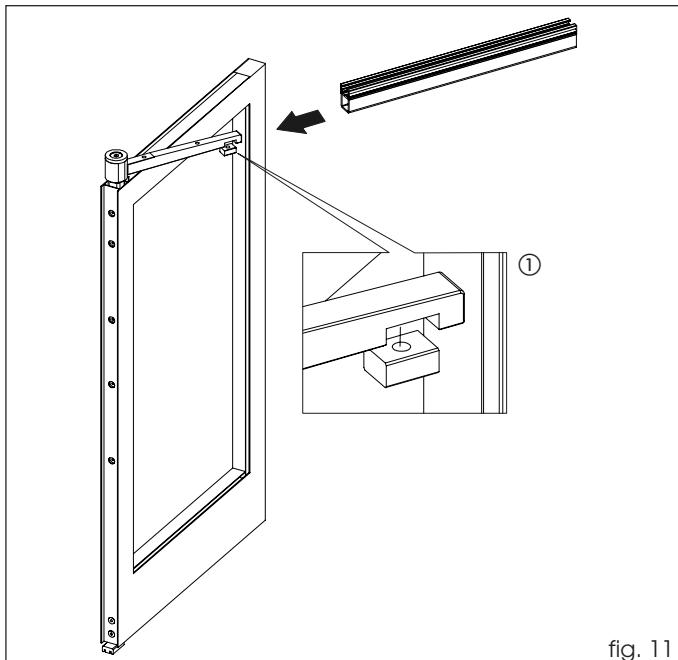

fig. 11
Locate the block under the top bracket (fig. 11 ref. ①) and insert the rod as shown in figure 11, matching up the 3 holes of the dowels.